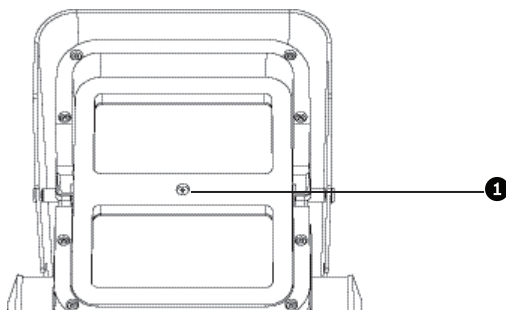

Figure 5.6 Slot for set screw for adjusting angle of LED tilt
2. Insert the set screw in the screw slot (item 1, *Figure 5.6*) between the camera window and the LED window in the front of the camera.